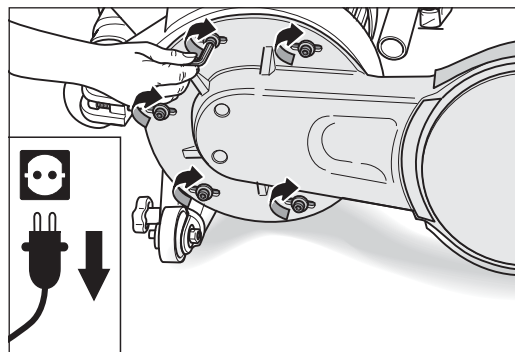

Fig. 74 Install the five screw including washers for fastening the attachment to the fan housing. **Do not tighten the screws firmly!**
- 14 To fasten the attachment to the fan housing, install the five hexagon socket screws including the respective washers (fig. 74). Do not tighten the screws!